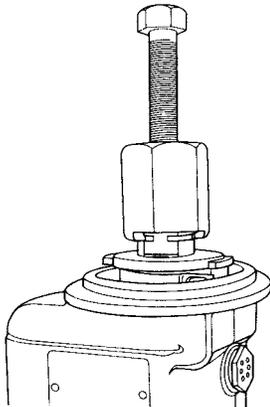

Figure 6.1A.
- E. Engage the Slick T-106 hub puller into the grooves in the hub assembly. Tighten the T-106 puller bolt and remove the impulse coupling hub assembly. (See Figure 6.1A.)